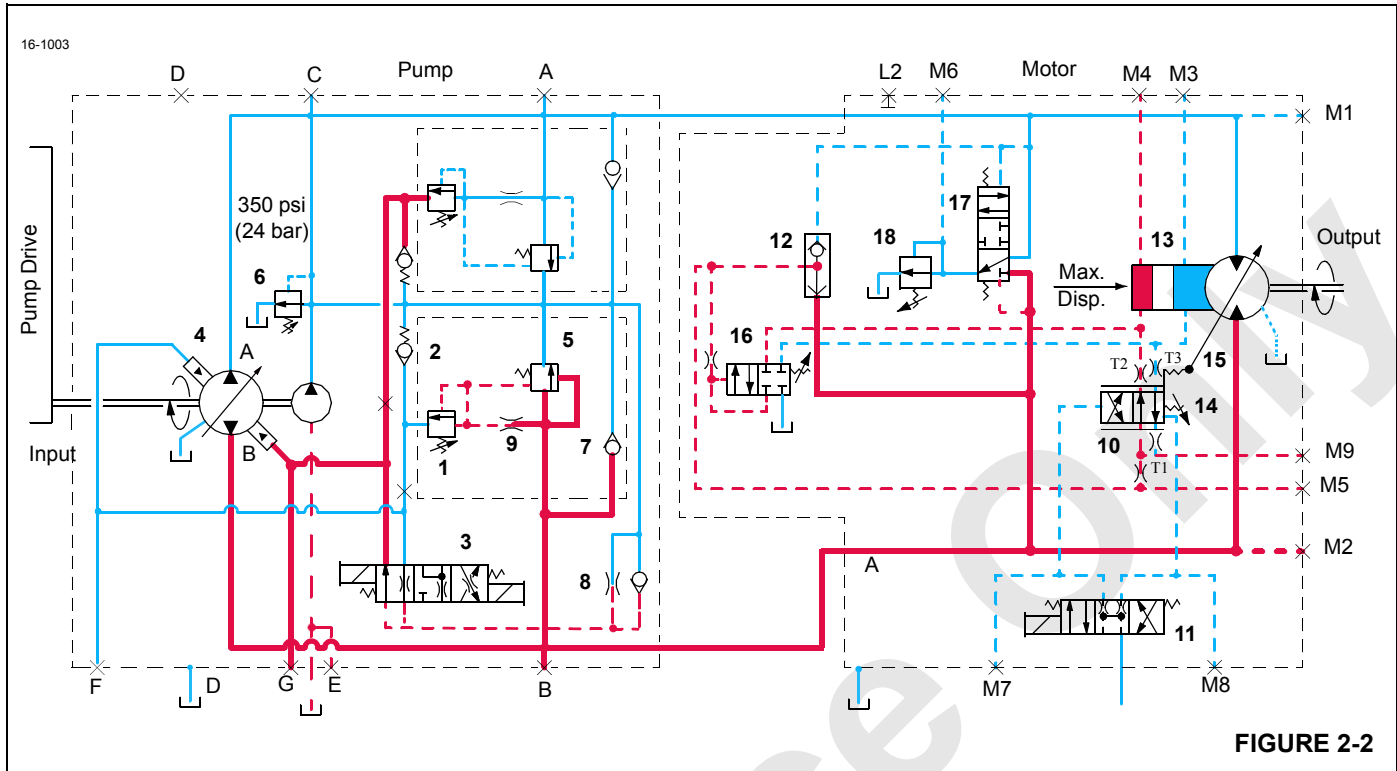

FIGURE 2-2
See Figure 2-1 or Figure 2-2 for the following procedure.
Hydraulic fluid pressure overcomes spring resistance in pressure limiting relief valve (1, Figure 2-2), shifting spool to open a line for fluid pressure. Servo check valve (2) is spring loaded with an opening pressure of 750 psi (52 bar). Hydraulic fluid from pressure limiting relief valve flows through exhaust port of displacement control valve (3).